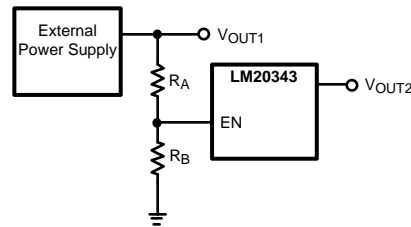

Figure 29. Sequencing LM20343 with Precision Enable
The precision enable (EN) and power good (PGOOD) pins of the LM20343 can be used to address many sequencing requirements. The turn-on of the LM20343 can be controlled with the precision enable pin by using two external resistors as shown in Figure 29.